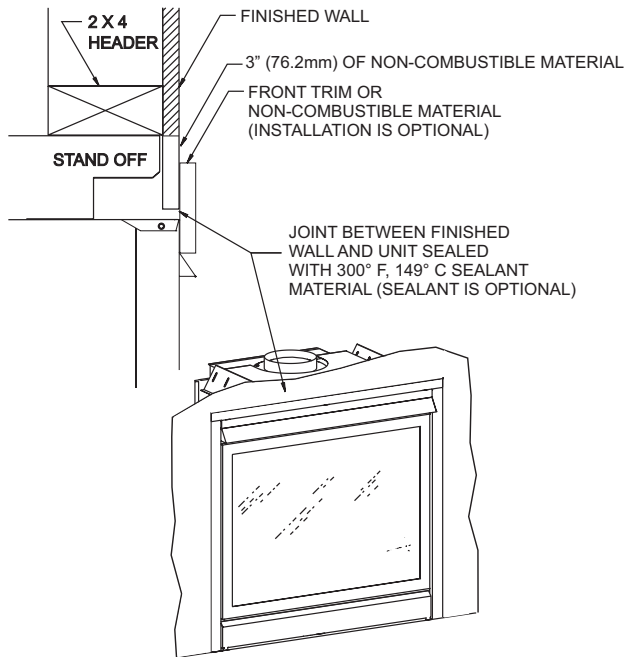

Figure 14
**Note:** For finishing to top of fireplace, refer to Figure 14.
## Finishing (Figures 14 and 15)